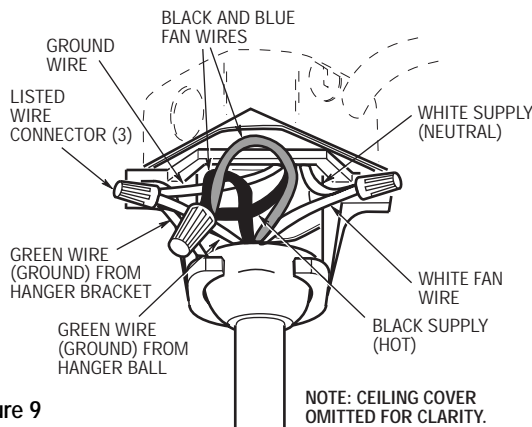

Figure 9
2. Securely connect the fan motor white wire to the supply white (neutral) wire using wire connector supplied (Figure 9). Securely connect the fan motor black wire and blue wire to the supply black (hot) wire using wire connector supplied (Figure 9). After connections have been made, turn leads upward and carefully push leads into the outlet box, with the white and green leads on one side of the outlet box and the black and blue leads on the other side of the outlet box.